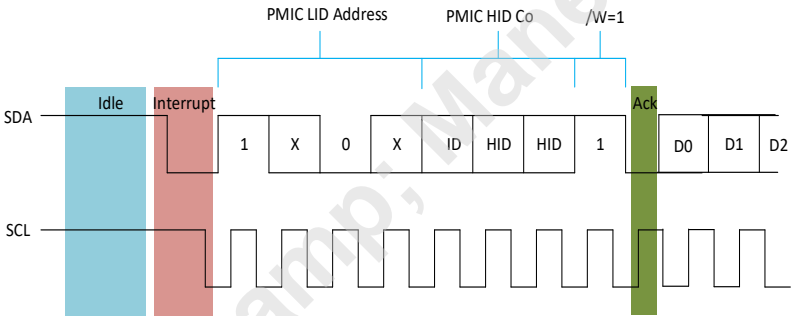

Figure 40 — PMIC Request Interrupt; Host Ack Followed by PMIC IBI Payload
- The Host sends ACK on 9th bit to accept the interrupt request. At this point, if the PMIC confirms that it has won the arbitration, the PMIC transmits the IBI payload as shown in Table 47 and Table 48 for PEC disabled and PEC enabled configuration respectively. See Figure 40. Figure 40 just shows only first two data bits of the first payload byte (MDB Byte) to illustrate the timing. The interrupt payload contains MDB followed by PMIC error register contents Table 96, “Register 0x08” to Table 99, “Register 0x0B” and Table 139, “Register 0x33” in order. The host then issues the STOP command. Note the timing waveform in Figure 40. The host then accepts the IBI payload if it sends an ACK on 9th bit to accept the interrupt request. The host can interrupt the IBI payload at T bit. If host stops the IBI payload at T bit in the middle of payload, the PMIC Hub device retains the IBI Status flag Table 98, “Register 0x0A” [1] and Pending Interrupt Bits [3:0] internally and waits for the next opportunity to request an interrupt. If the PMIC device successfully transmits the entire IBI payload, it then clears the IBI Status flag Table 98, “Register 0x0A” [1] = ‘0’ and Pending Interrupt Bits [3:0] = ‘0000’ on its own and does not request for an IBI again unless there is an another different event occurs; for another same event, the device does not request for a IBI.